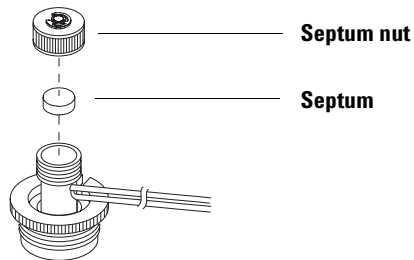

Figure 53 Inlet with the septum and septum nut removed
- 3 Unscrew the septum nut. See Figure 53.